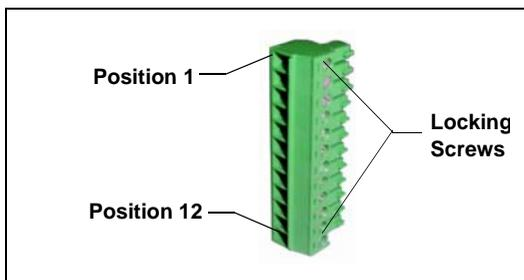

Figure B-2. 12-Position Connector Plug
1. Locate the twisted pair of wires (P/N 043598) and the 12-position connector plug (P/N 923687) (see Figure B-2) in the Dionex ICS-1100 Ship Kit (P/N 057905).